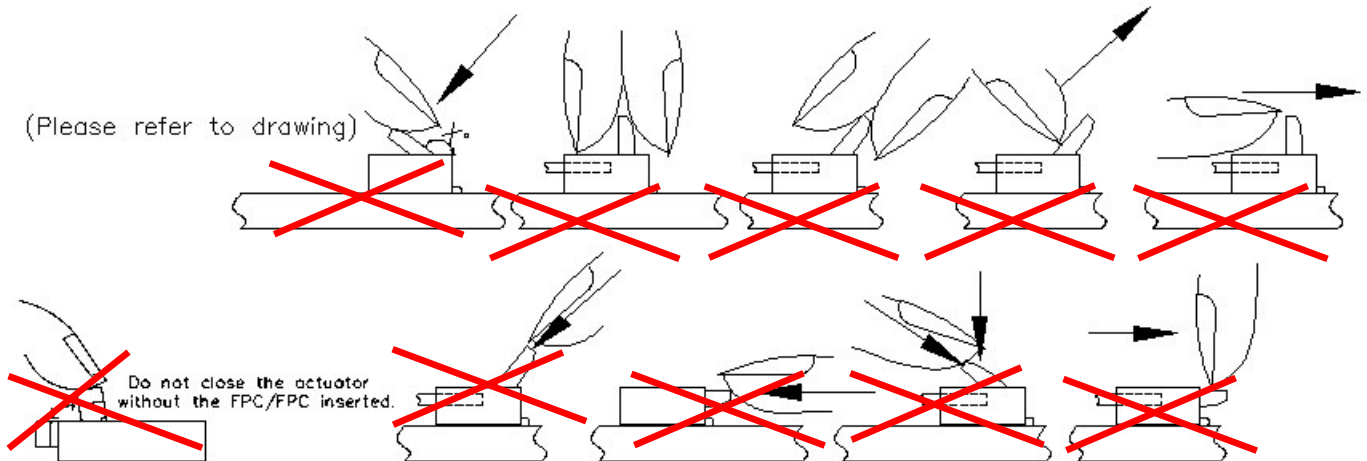

Figure 8.
- The connector will assure reliable performance when the actuator is open to an angle (please refer to drawing) maximum. Do not exceed this angle, as this may cause permanent damage to the connector. (see figure 8)
- Avoid grasping the actuator(Lock) with two fingers or lifting the actuator(Lock) with fingernail. (see figure 8)
- Do not apply force in the direction of arrows. Doing this may cause the actuator to be detached or damaged. (see figure 8).
- Do not close the actuator without the FPC/FFC inserted. (see figure 8)